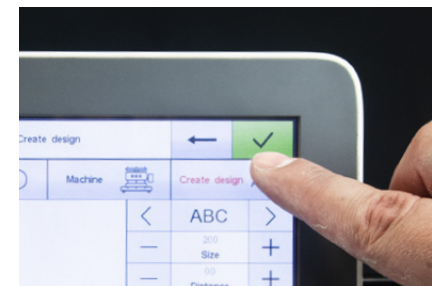

Figure 75
2. Select the "Create Design" key. **See Figure 75.**